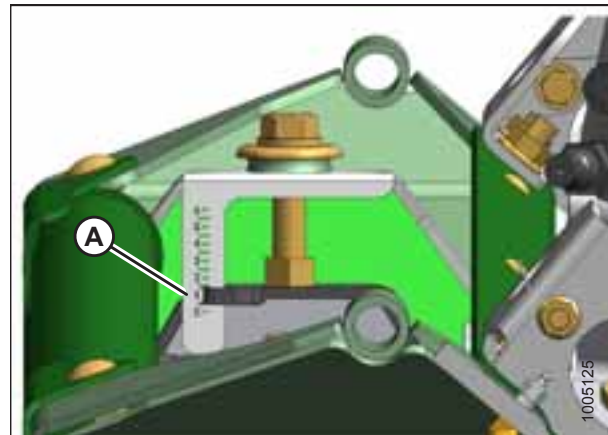

Figure 3.70: Roll Gap Gauge
- Refer to Figure 3.70, page 48 Confirm the roll gap is at the 1.5 line (A).